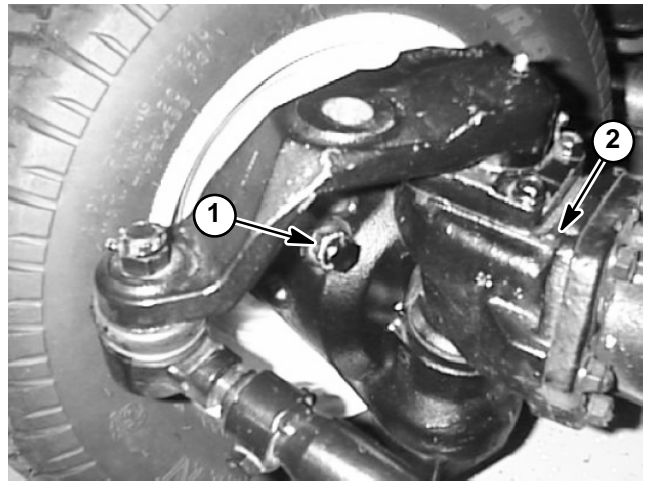

Figure 14
14. Check steering stop bolt adjustment. When the steering cylinder is fully extended (right turn), a gap of 1/16" (1.6 mm) should exist between bevel gear case casting and stop bolt on left axle case. Figure 14 shows stop bolt location.